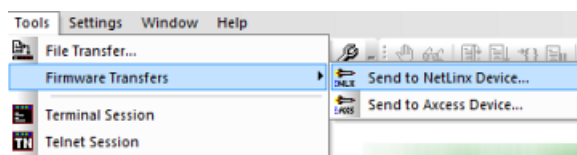

FIG. 24 NetLinx Studio - Tools > Firmware Transfers > Send to NetLinx Device
4. In NetLinx Studio, select **Tools > Firmware Transfers > Send to NetLinx Device** (FIG. 24):